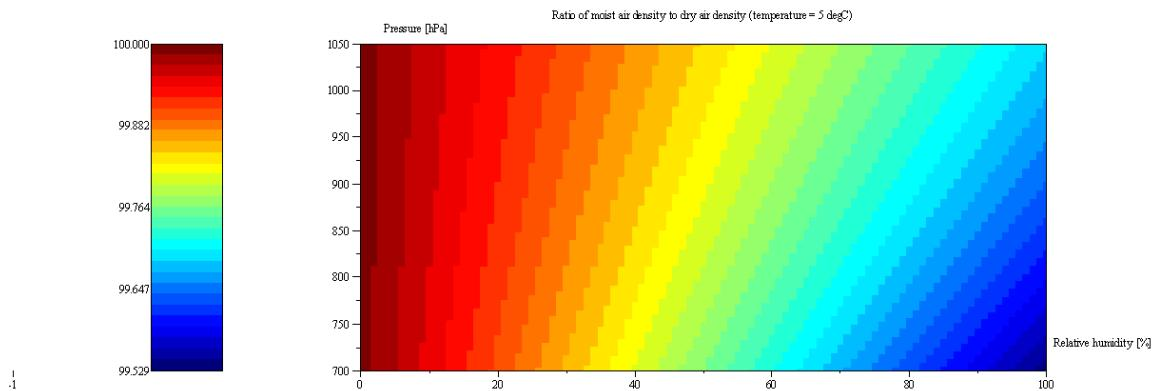
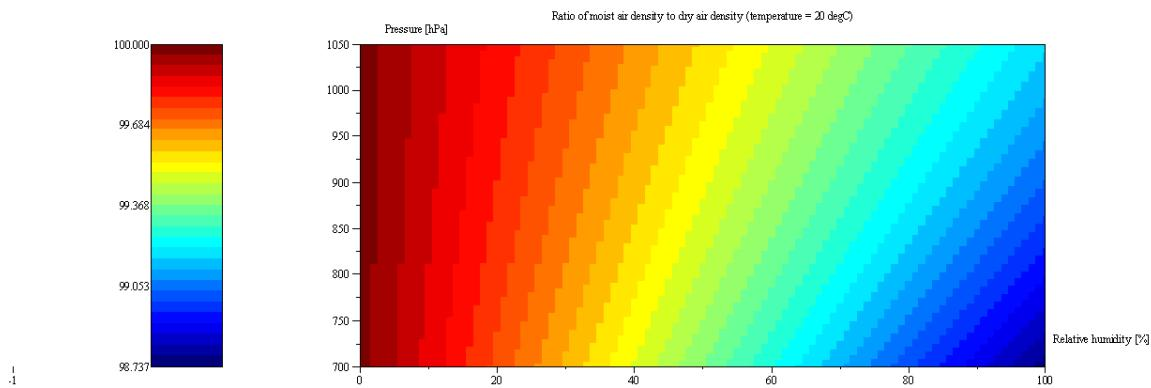

Figure 5: Density Ratio for Temperature = 5 deg C in [%].
Figure 8: Density Ratio for Temperature = 20 deg C in [%].
This equation (8) is now used to make a sensitivity study of the influence of moist air. This is done by calculating the ratio of moist air density to dry air density. This calculation is shown – for temperatures 5°C - 20 °C in the figures below. From the Figure 5 - Figure 8 it is observed, that the density influence of moist air is less than 1.7 percent for the considered temperature range. Higher temperatures yield a higher influence. For wind turbine applications the air moisture density influence could – in most cases – be ignored (i.e. it is a reasonable assumption to use the dry air properties).